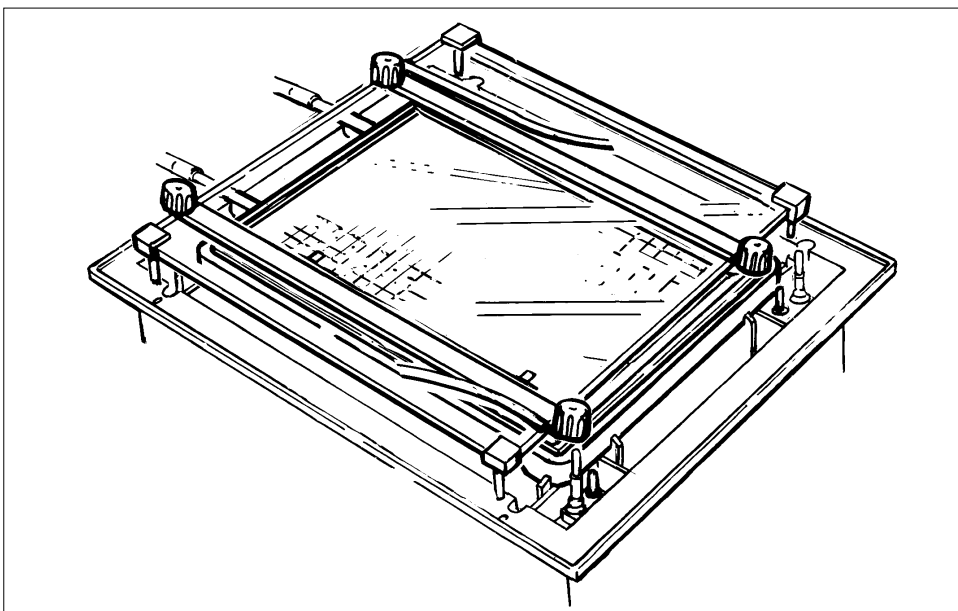

Fig. 31.
- Place the electrode holder in the upper position and align the electrodes with the buffer strips (Fig. 31).